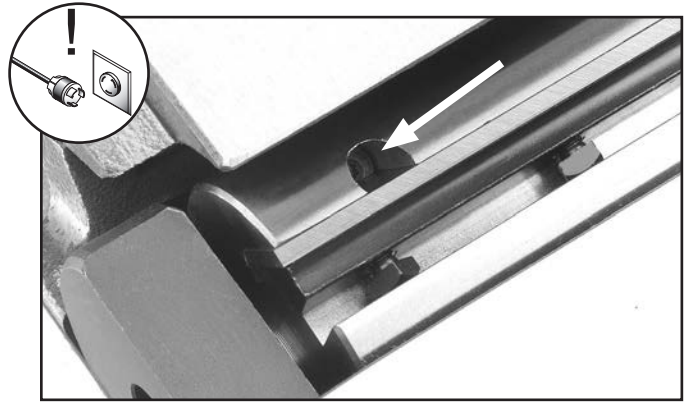

Figure 53. Jack screw access hole.
7. Using a 2.5mm hex wrench, find the jack screws through the access holes in the cutterhead (**Figure 53**) and rotate the jack screws to raise or lower the knife. When the knife is set correctly, it will barely touch the middle pad of the knife setting jig. Snug the gib bolts tight enough to just hold the knife in place. Repeat **Steps 5-7** with the rest of the knives.